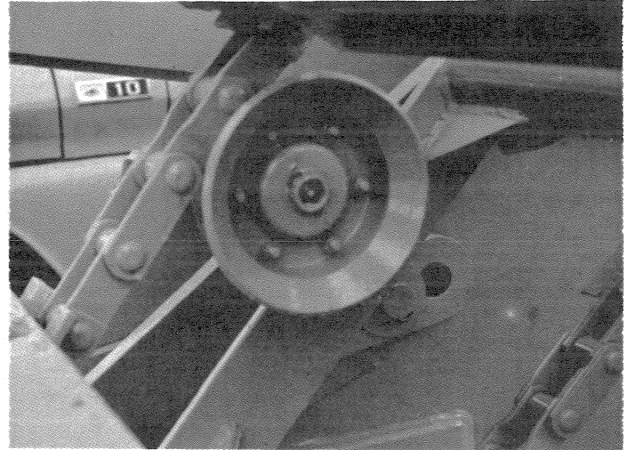

Figure 3. Chain adjustment
**DO NOT OPERATE THE SCRAPER WITH THE CHAIN TOO TIGHT.** The chain should have a pronounced 'sag' measured at the edge of the frame, and halfway between the drive sprocket and the tail roller. At this point, the chain should sag at least 11" below the frame (Fig. 3).